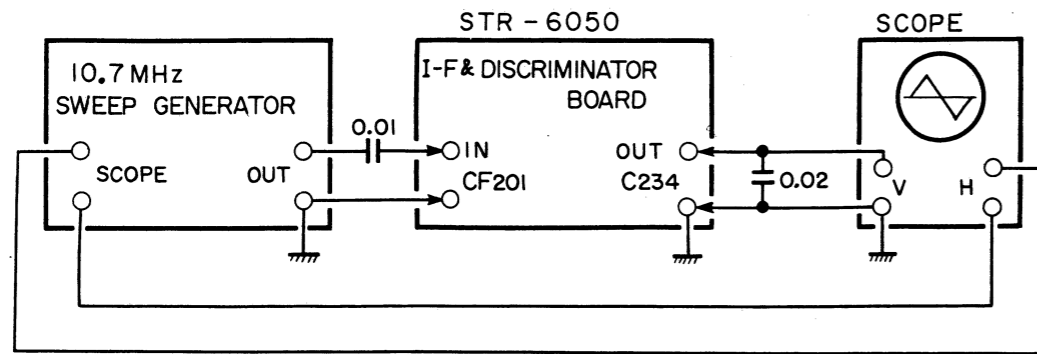

Fig. 3-5 FM Discriminator Adjustment Test Set-up
- With the equipment connected as shown in Fig. 3-5, set the 10.7 MHz Sweep Generator controls as follows: